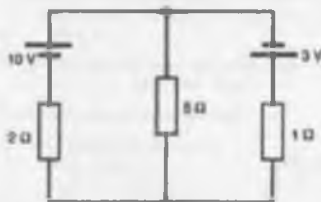

Figure A4.1
- 1 Find the current flowing in the 5Ω resistor of the circuit shown in Fig. A4.1 using (a) Kirchhoff's laws, (b) the Superposition theorem, (c) Thévenin's theorem, (d) Norton's theorem.